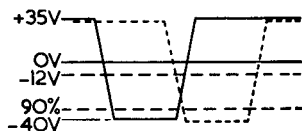
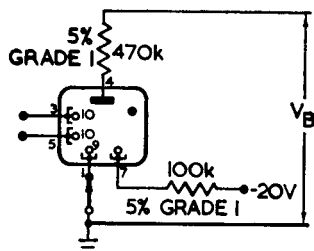
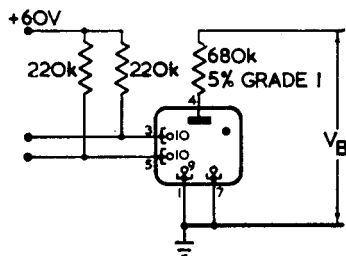

Fig. 1
Fig. 2
Fig. 4
2. The tube shall scale without error the first applications of test signals (illustrated in Fig. 1). Test signals are to be applied for at least 1/10th second. The test circuit of Fig. 2 is applicable.
5. The tubes selected for this test are to be run in the circuit shown in Fig. 4. One application of the pulses shown in Fig. 1 is to be made every 85 ± 5 hours. The tube is to receive 20 such pulses and then be removed. A tube which fails to step on the application of the test pulses shall be rejected. The normal guide bias is to be $+60 \text{ V}$ which will be reduced to $+35 \text{ V}$ immediately prior to the application of pulses.